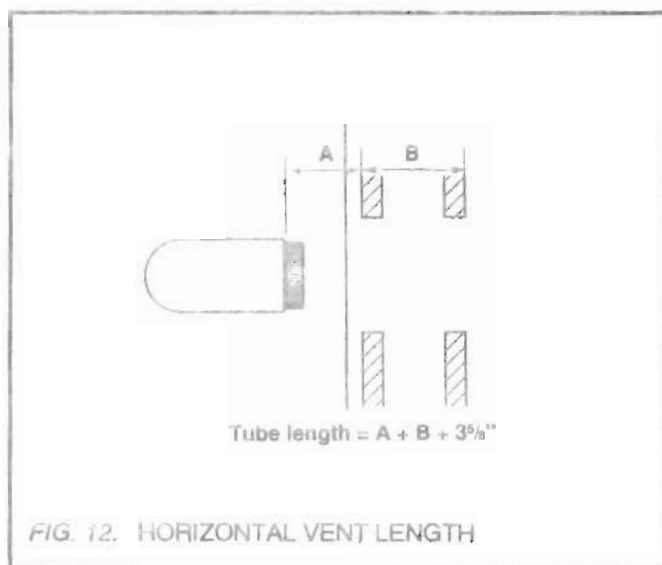

FIG. 12. HORIZONTAL VENT LENGTH
- 7.7.** Measure the distance from the elbow unit to the wall allowing for the amount of overlap where the elbow unit enters the horizontal vent (Figure 12 dimension "A").
- 7.8.** Calculate the total length of horizontal vent required. This length is:- Elbow unit to wall (Figure 12 dimension "A") + Wall thickness (Figure 12 dimension "B") + 3 5/8" (Terminal outside wall).